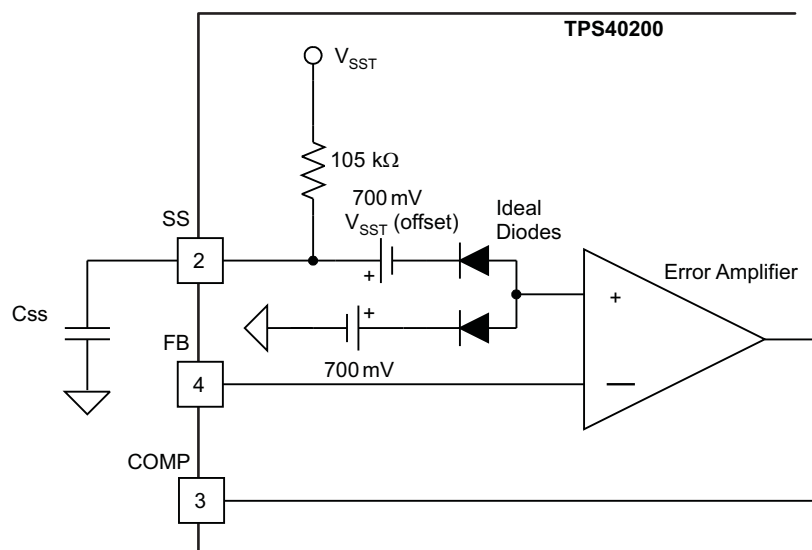

Figure 29. Soft-Start Circuit
An external capacitor,  $C_{SS}$ , connected from the soft-start (SS) pin to ground controls the TPS40200 soft-start interval. An internal charging resistor connected to  $V_{DD}$  produces a rising reference voltage, which is connected through a 700-mV offset to the reference input of the TPS40200 error amplifier. When the soft-start capacitor voltage ( $V_{CSS}$ ) is below 150 mV, there is no switching activity. When  $V_{CSS}$  rises above the 700-mV offset, the error amplifier starts to follow  $V_{SST} - 700$  mV, and uses this rising voltage as a reference. When  $V_{CSS}$  reaches 1.4 V, the internal reference takes over, and further increases have no effect. An advantage of initiating a slow start in this fashion is that the controller cannot overshoot because its output follows a scaled version of the controller's reference voltage. A conceptual drawing of the circuit that produces these results is shown in Figure 29. A consequence of the 700-mV offset is that the controller does not start switching until the  $V_{CSS}$  has charged up to 700 mV. The output remains at 0 V during the resulting delay. When  $V_{CSS}$  exceeds the 700-mV offset, the TPS40200 output follows the soft-start time constant. Once above 1.4 V, the 700-mV internal reference takes over, and normal operation begins.